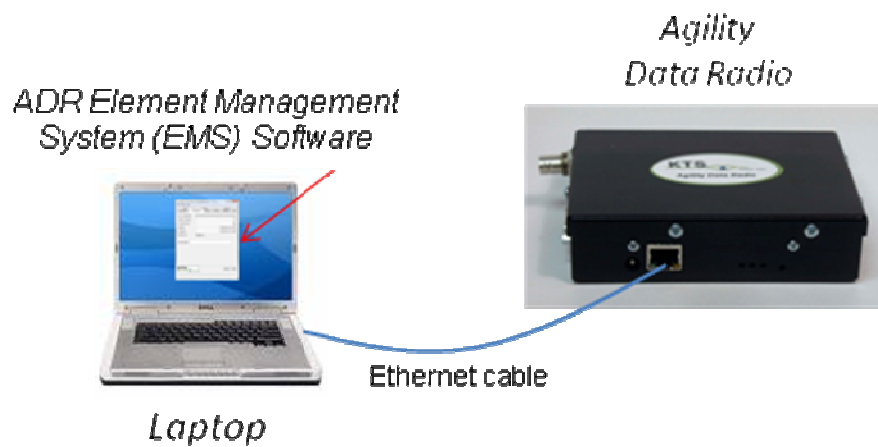

Figure 2: AWR/EMS Connection
5. Connect a laptop to the AWR as shown in the Figure 2. Installation of the EMS software that was provided with the AWR will be required to manage the devices. Insert the CD in your computers CD drive and double click on the installation icon and follow the prompts to complete the EMS software installation process.